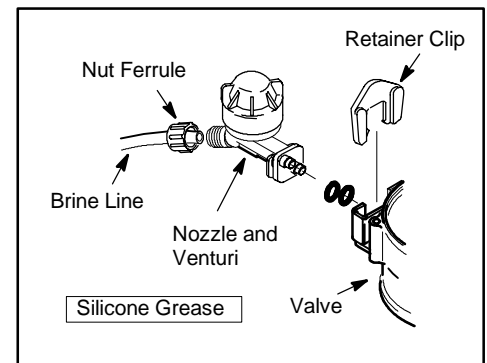

Figure 5
19. Reconnect brine line to nozzle and venturi assembly by hand-tightening the nut ferrule. **Figure 5.**